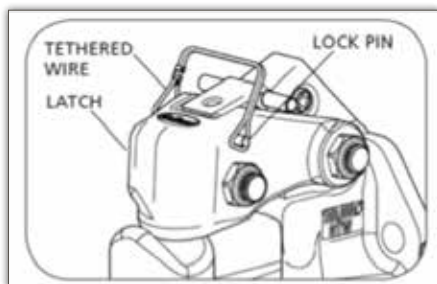

Figure 16
- Unlock and remove the tethered lock pin, if applicable (Figure 16).
- Insert the tethered lock pin through the latch and lock holes, and close the tethered wire lock pin, if applicable (Figure 16).